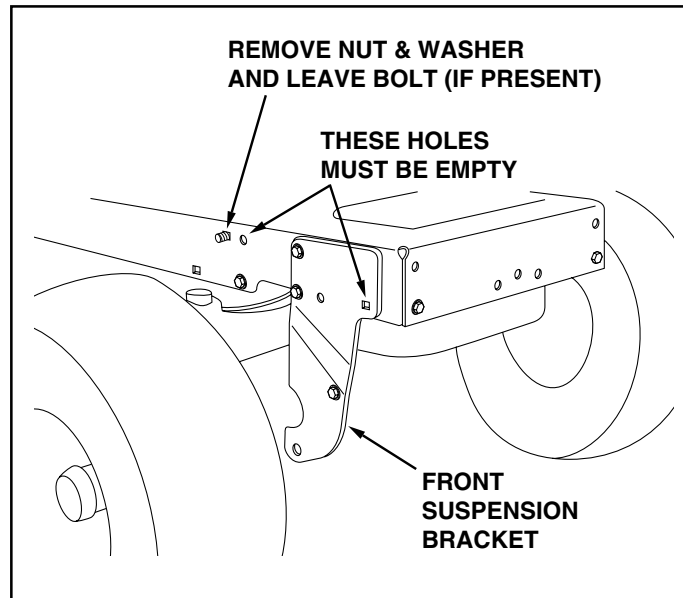

FIGURE 1
### TRACTORS WITH FRAME MOUNTED FRONT SUSPENSION BRACKETS (See figure 1.)
- Remove any bolts that are present in the two holes shown as empty in figure 1.
- If there is a bolt in the third hole shown in figure 1, remove the nut and washer but leave the bolt in place.
- If you removed a nut and washer from the bolt in figure 1, assemble a whizlock nut onto the bolt.